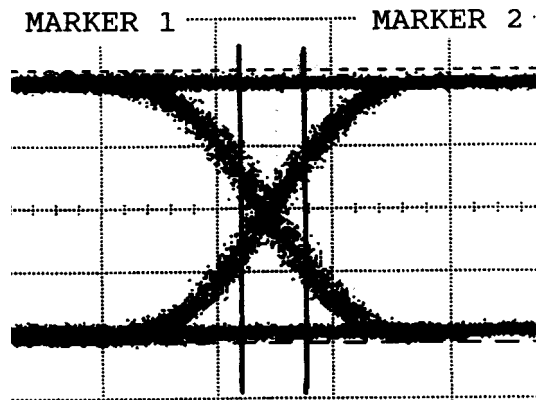

Figure 11-2
5. Select VOLTS Histogram and move the WINDOW MARKERS 1 and 2 as shown in Figure 11-2.